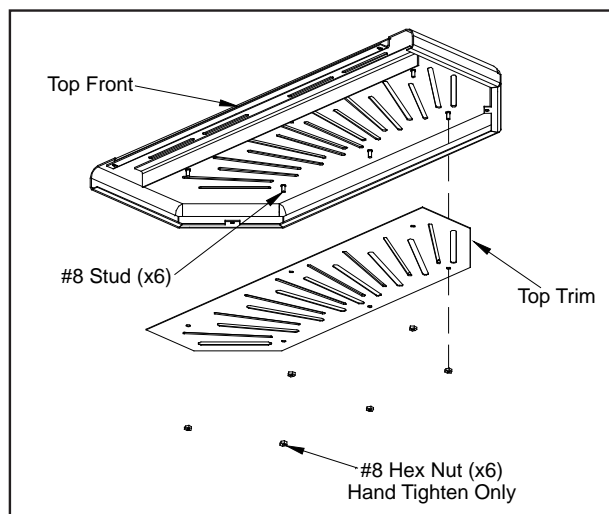

Figure 43: Top front with top trim
Place the new trim on its corresponding studs (see Figure 43) and finger tighten the six (6) #8 hex nuts.